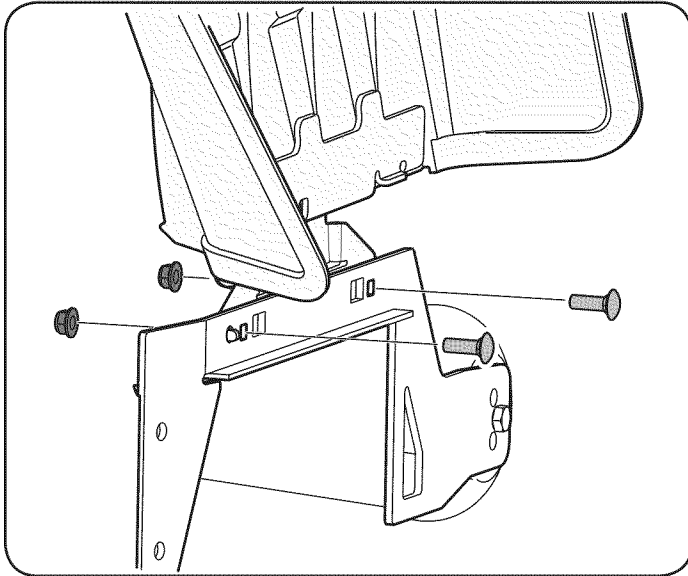

Figure 6
2. Remove the hex screws and flat washers from the hardware pack in your manual bag. See Figure 6.
3. With the previously removed hardware, install the chute deflector on the deck as shown in Figure 6.